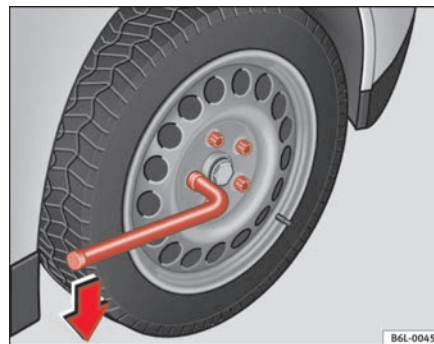

Fig. 136 Changing the wheel: loosen the wheel bolts
- Grasp the box spanner by the end turn it about one full turn to the **left** ⇒ **fig. 136**.